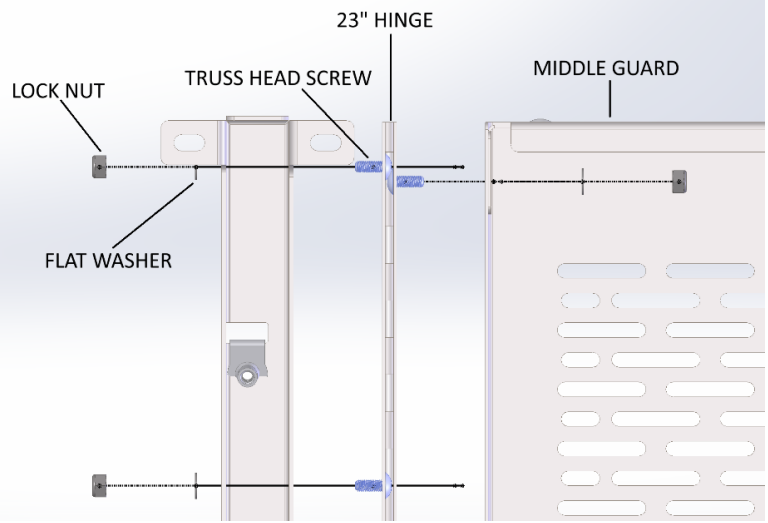

**Figure 5: Positioning of Outer Bracket on Truck**
- b. The Outer Bracket must rest within the indent on the back of the cab. (Figure 5)